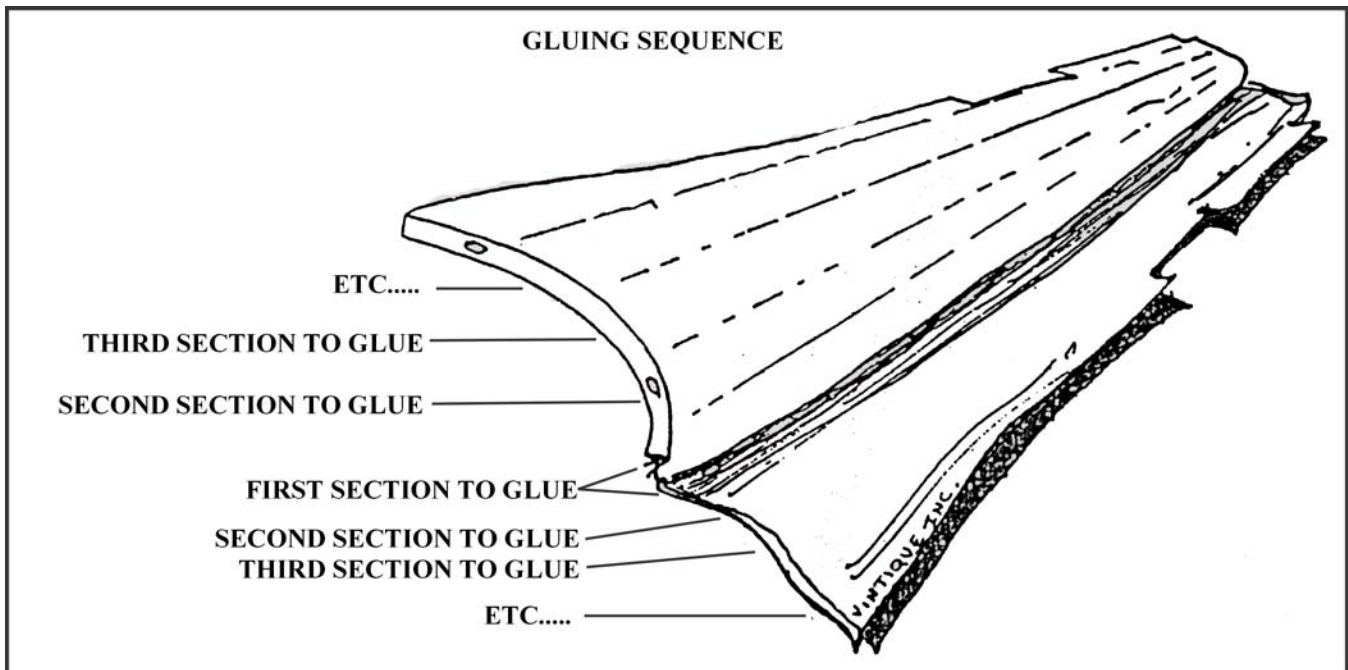

Figure 3
- (10) Apply glue in sections 3 inches to 4 inches wide along the entire length (front to rear) of rubber cover and steel board. After the glue tacks, roll the rubber cover over steel board (careful to avoid trapping air bubbles), and press together. Repeat the 3 to 4 inch wide sections until the entire cover is glued to the steel board. **SEE FIGURE 3.**